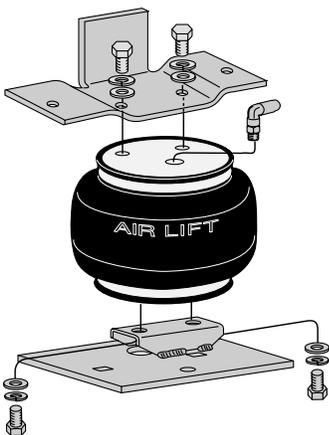

Figure 1
(* not shown in Figure 1)
6. Set a roll plate (E) on both ends of the double convolute bellow (Figure 1). **Kit 57128 with the single convolute bellow does not require roll plates.**
8. Attach the lower bracket to the bellow using two bolts (H), two lock washers (I), and two flat washers (J) (Figure 1).
9. Attach the upper bracket (B) to the bellow using two bolts (H), two lock washers (I), and two flat washers (J). Be sure that the tall vertical leg of the upper bracket is opposite of the air fitting port (Figure 1).